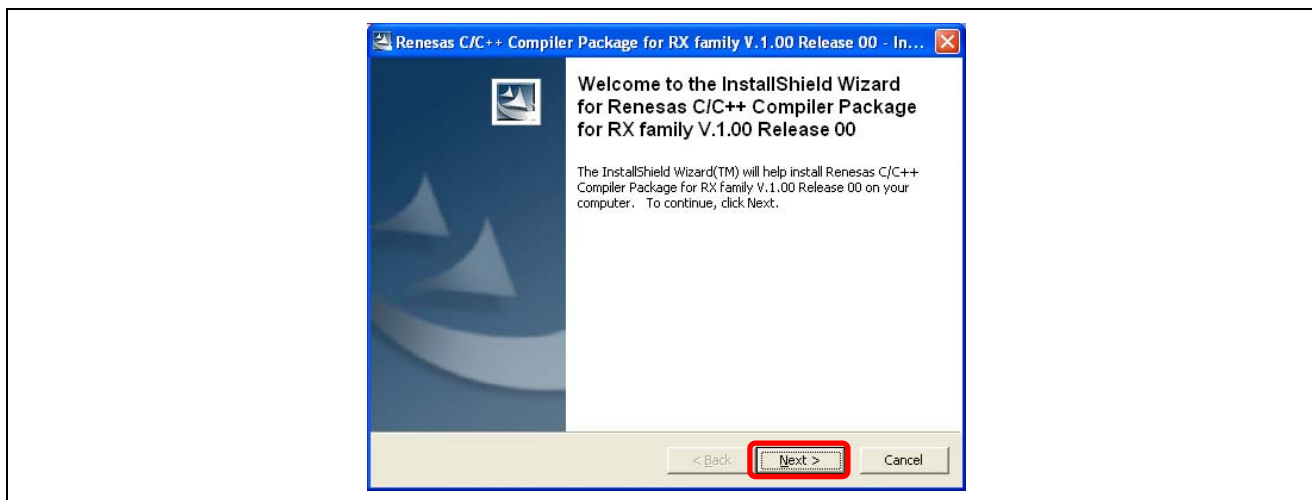
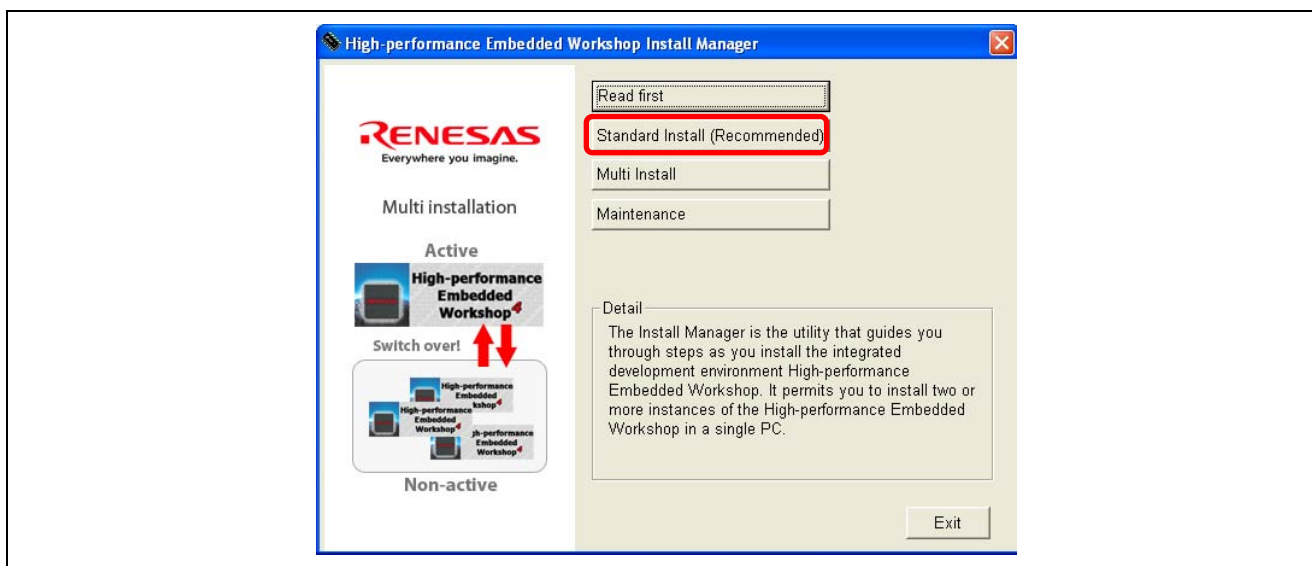

Figure 3.9 Starting to Install the Evaluation-Version C Compiler
Figure 3.10 High-performance Embedded Workshop Installation Manager
- (1) To install the evaluation version of the compiler, download the executable file (e.g. ccrxv100r00\_ev.exe) and double-click on the filename or icon. In the dialog box shown in Figure 3.9, click on the [Next] button. To install an official product-version compiler, insert the CD into the computer drive. The installation process starts with the screen shown in Figure 3.10.
- (2) The dialog box shown in Figure 3.10 appears. Select [Standard Install (Recommended)].